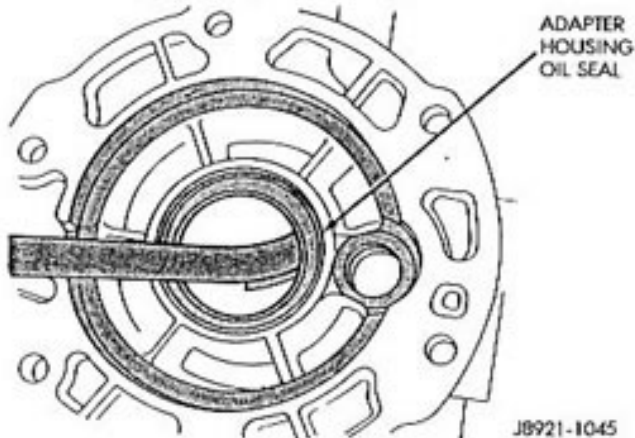

Fig. 15 Removing Adapter Housing Seal
(18) Remove the adapter housing oil seal with a pry tool (Fig. 15).